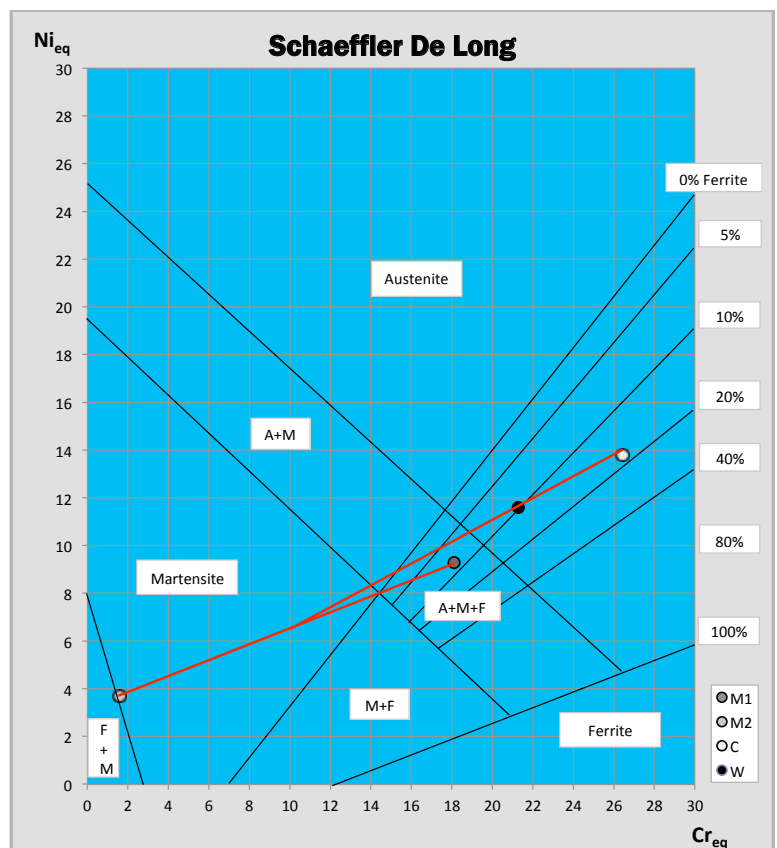

Figure 8.
One way of predicting the structure formed in the weld metal is to use a Schaeffler/DeLong diagram in which the ferrite stabilizers are plotted on the horizontal C_{req} axis and the austenite stabilizers on the vertical Ni_{eq} axis. It is possible to see whether the structure is austenitic, martensitic or ferritic or any mixture thereof for given Cr- and Ni equivalents. This is shown in figure 8. The ferrite content is presented as volume percent and calculated in table 7.
The Schaeffler De Long diagram in figure 8 is based on table 12, where the dissimilar-metal weld is between stainless steel type 304L (M1 in diagram) and carbon steel (M2). The consumable used (C) is a Cromarod 309MoL, which is normal for this application. Dilutions are set to 15% from each parent metal and rest weld metal. The resulting weld metal (W in diagram) will have a calculated ferrite volume of around 10%. No risk for hot cracking or martensite formation is present.